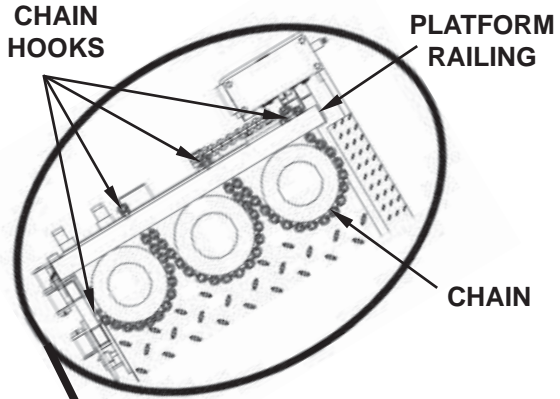

FIG. 12-1C
3. Wrap chain around each gas bottle and hook onto platform railing as shown in **FIG. 12-1C**. If you need to stand on the platform with the load, stand in the footprint area shown and comply with preceding **WARNING**.